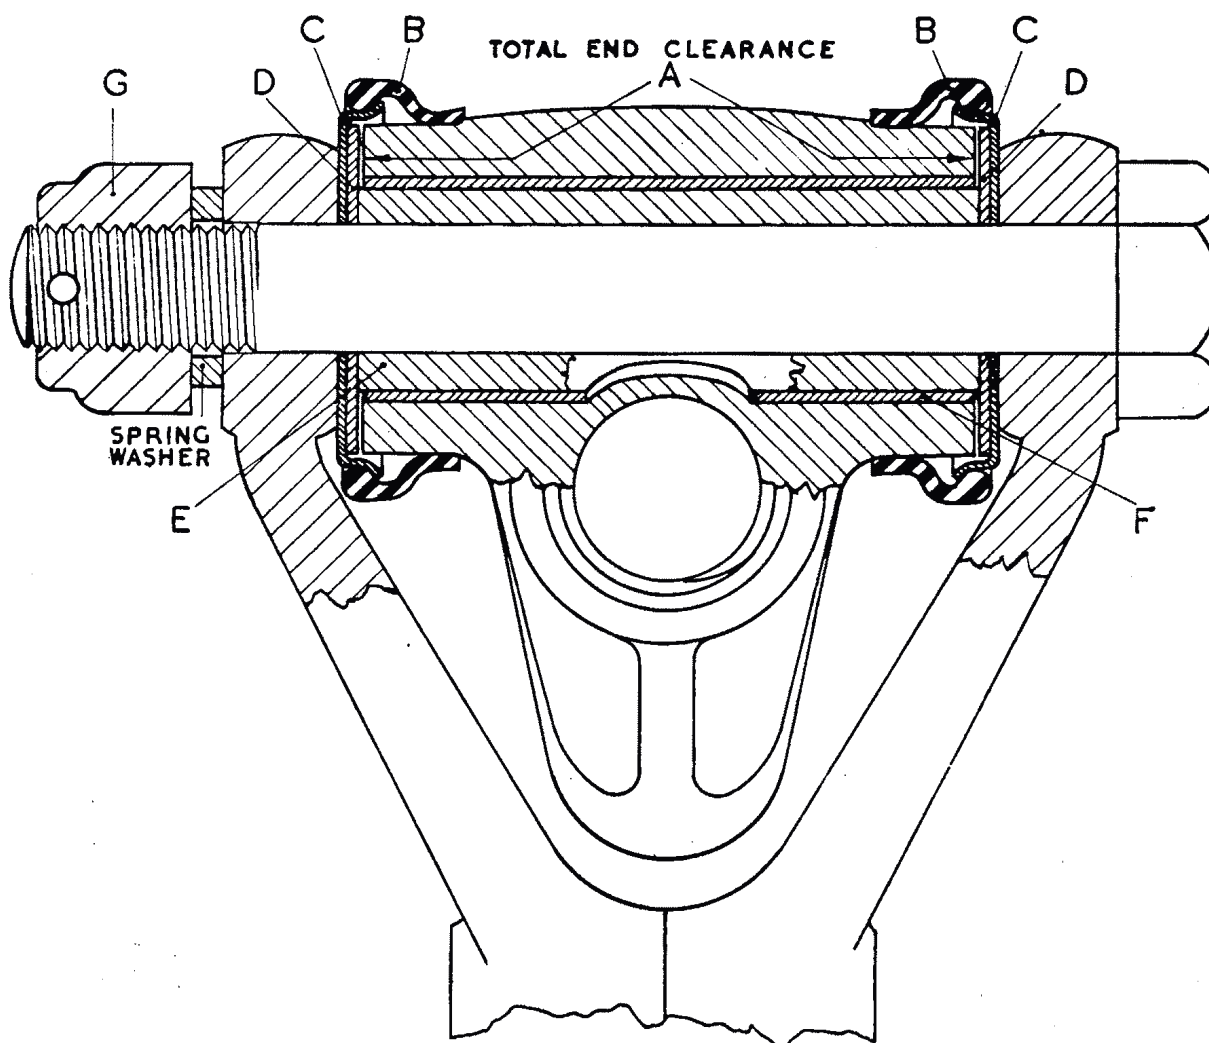

Fig. K.1
**Note.**—When pressing in this bush see that the hole in the bush faces the threaded bore. (See Fig. K.1.)
When the swivel links, distance tubes and thrust washers are assembled, the total end clearance between the link and the thrust washers should be .008 to .013 in. (.2 to .33 mm.). (See "A" Fig. K.1.)
Ensure that the thrust washers, rubber seals and retainers are assembled in the right order. (See Fig. K.1.)